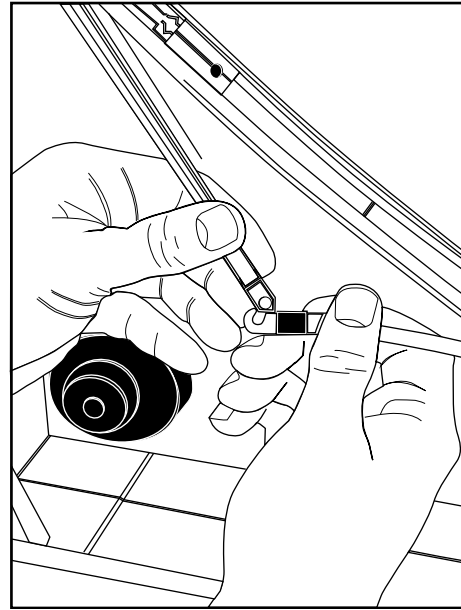

Fig. 191 — Belts Linked Together
5. Link belt ends together with belt wrapped around wheel (Fig. 191).